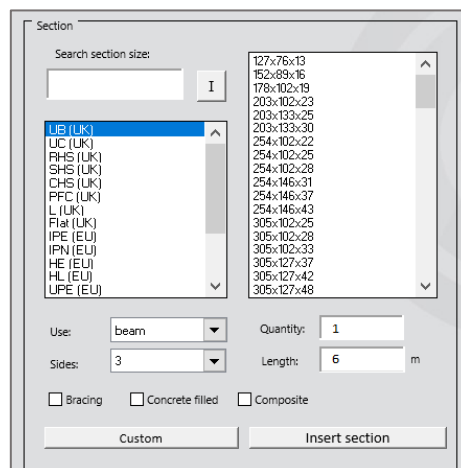

Figure 19: Selecting section size
Sections are grouped by section category and then by serial size. Selecting one of the options in the menu will make available a list of all the most commonly used sections in that category. As an example, in Figure 19, the option UB(UK) has been selected, bringing to view all standard dimensions of Universal Beam for the UK market.